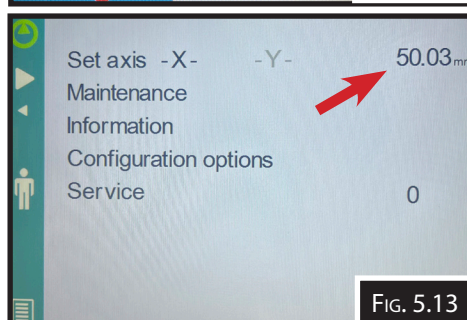

FIG. 5.13
6. Touch on the X to ensure the X Set axis value is shown. Compare "X" Value with the measured X axis position from the back gauge finger tip to the center of the Die V, to adjust enter actual measured value. (Fig 5.13)